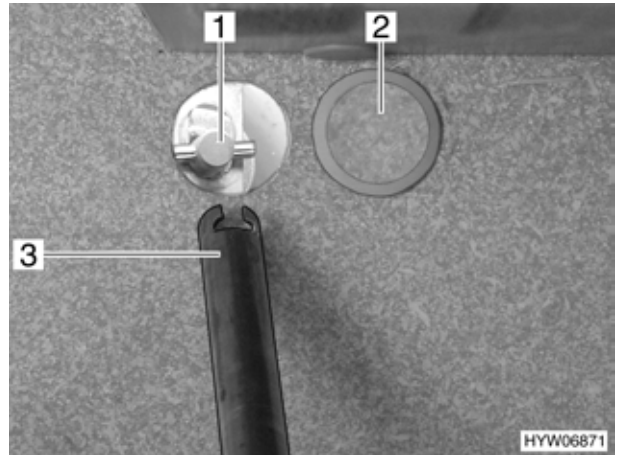

Fig. 182 Opening for winch
The opening to permit operation of the winch is covered with a plastic cap (Fig. 182,2).
- Use a suitable tool (e.g. a screw driver) to prise off the plastic cap (Fig. 182,2).
- Place the spanner (Fig. 182,3) on the receptacle (Fig. 182,1) of the spare wheel support.